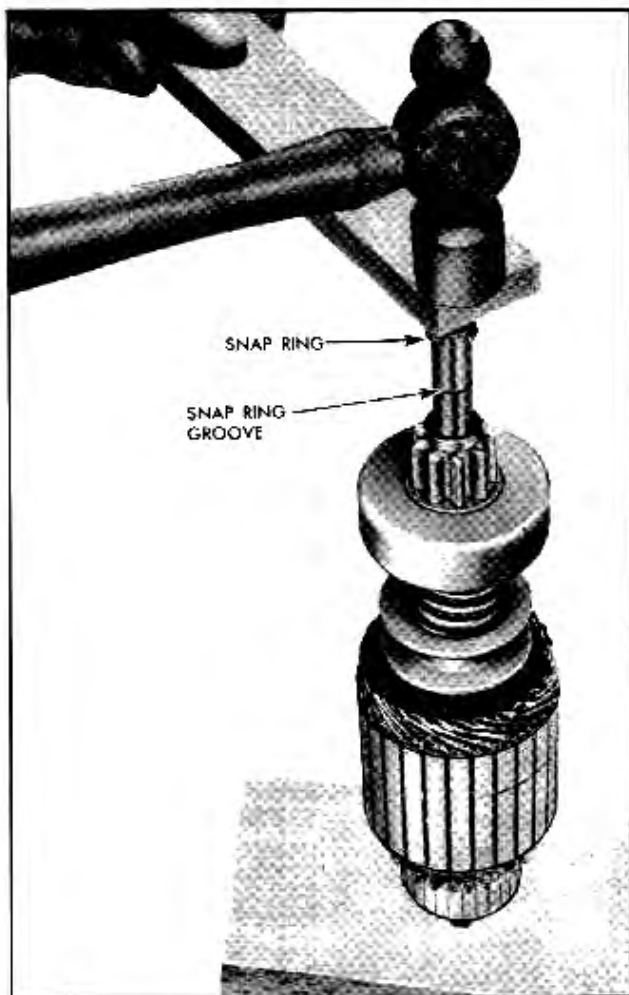

Fig. 12-41 Forcing Snap Ring Onto Armature Shaft
d. Stand armature on end on wood surface with commutator down. Position snap ring on upper end of shaft and hold in place with a block of wood. Hit wood block a blow with hammer forcing snap ring over end of shaft. Slide snap ring down into groove (Fig. 12-41).